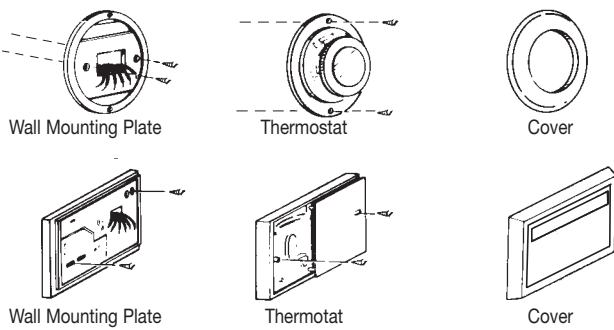

Figure 1
■ Remove existing thermostat cover and thermostat. See Figure 1. Some thermostats will have screws or other locking devices that must first be removed. Once the wall mounting plate is exposed, look for wires.
If wires are not visible, they may be connected to the back of the wallplate. Again, look for screws, tabs, etc. Some models have doors that open to expose wires and mounting screws. See Figure 1.